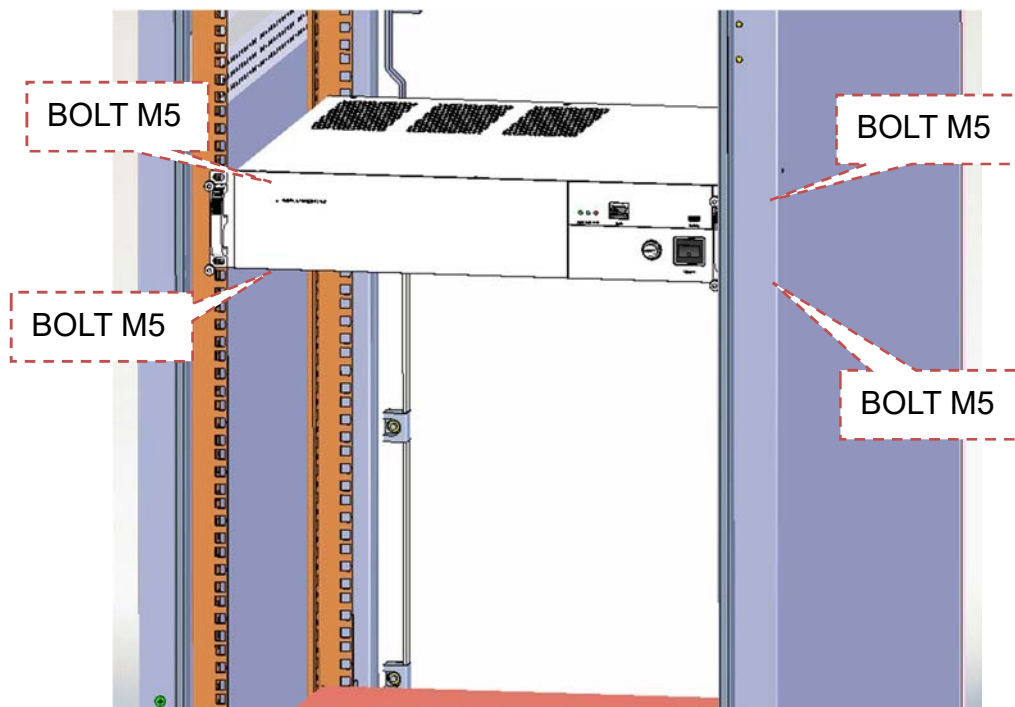

Figure 3-17
3. Use screw to mount NEU reference to Figure 3-17.